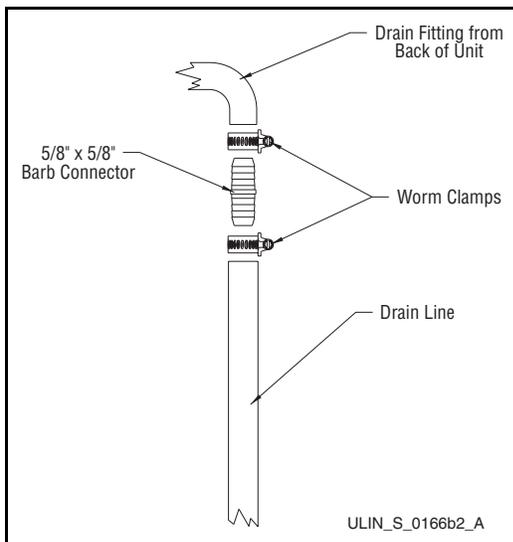

Figure 40
4. Slide a clamp on each side of the barbed fitting as shown (see **Figure 40**).